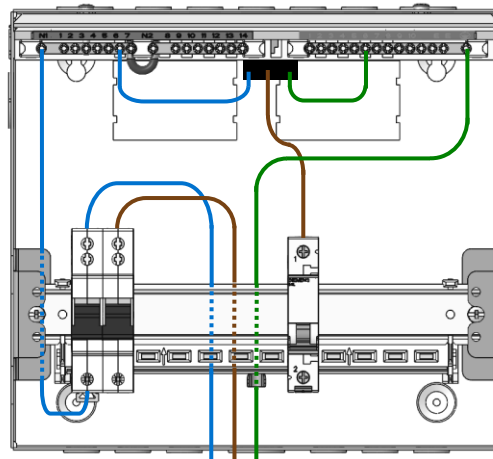

Fig 4.1 – connection to MCBs
- Cut, dress and connect circuit conductors to appropriate MCB, RCBOs, AFDDs, neutral and earth terminals. (Figs 4.1 and 4.2)
- Ensure that each earth and neutral outgoing circuit is correctly made to its corresponding numbered terminal (Figs 4.1 and 4.2).